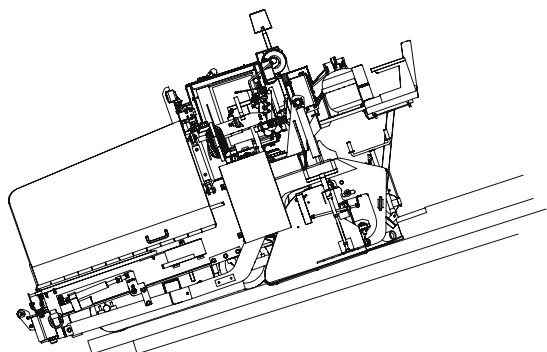

Figure 4-51. Correct Unloading Position
6. Move paver forward down the ramp as shown on **Figure 4-51**.